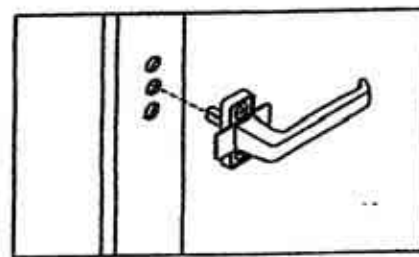

Figure 2-6. Handle in the horizontal position
- 2.5 Turn (Open) position: rotate the SA- FE-Handle to the horizontal position, with the handle pointing toward the hinge side of the sash. Install the SA- FE-Handle on the sash: insert the shaft into the center hole. See Fig. 2-6.